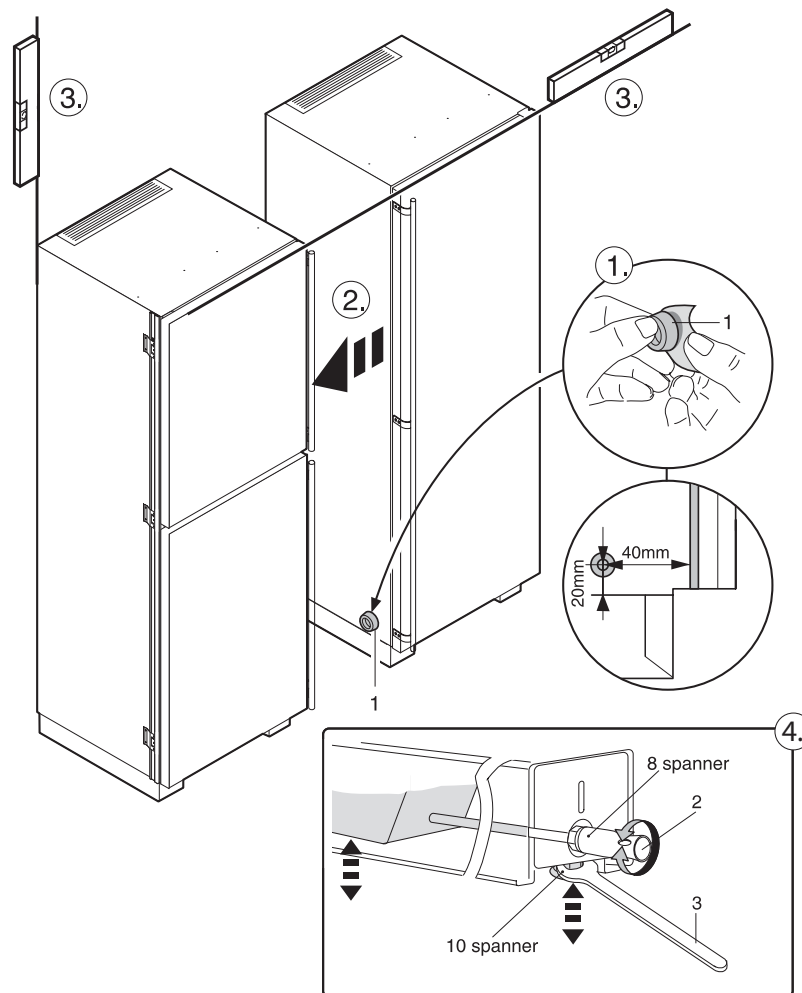

Figure 25
1. Affix the spacer (1) on the side wall of the R/RB1400 appliance (**Figure 25**) – remove the protective film.
4. Use the open-end wrench 10 mm (3) to adjust the feet at the front of the roller base. Turn